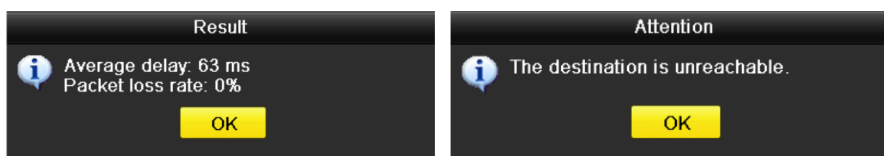

Figure 11-23 Testing Result of Network Delay and Packet Loss
Step 4 Click **Test** button to start testing network delay and packet loss. The testing result pops up on the window. If the testing is failed, the error message box will pop up as well. Refer to Figure 11-23.